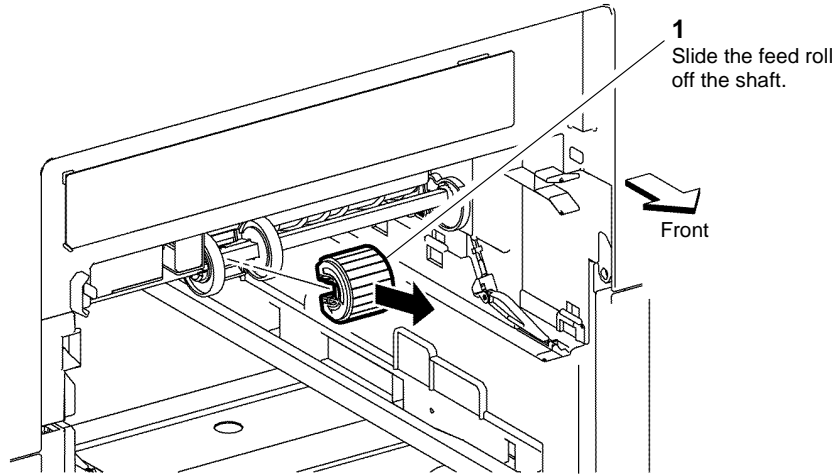

Figure 3 Feed roll removal
- Remove the feed roll, Figure 3.